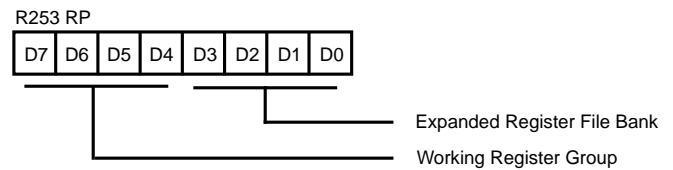
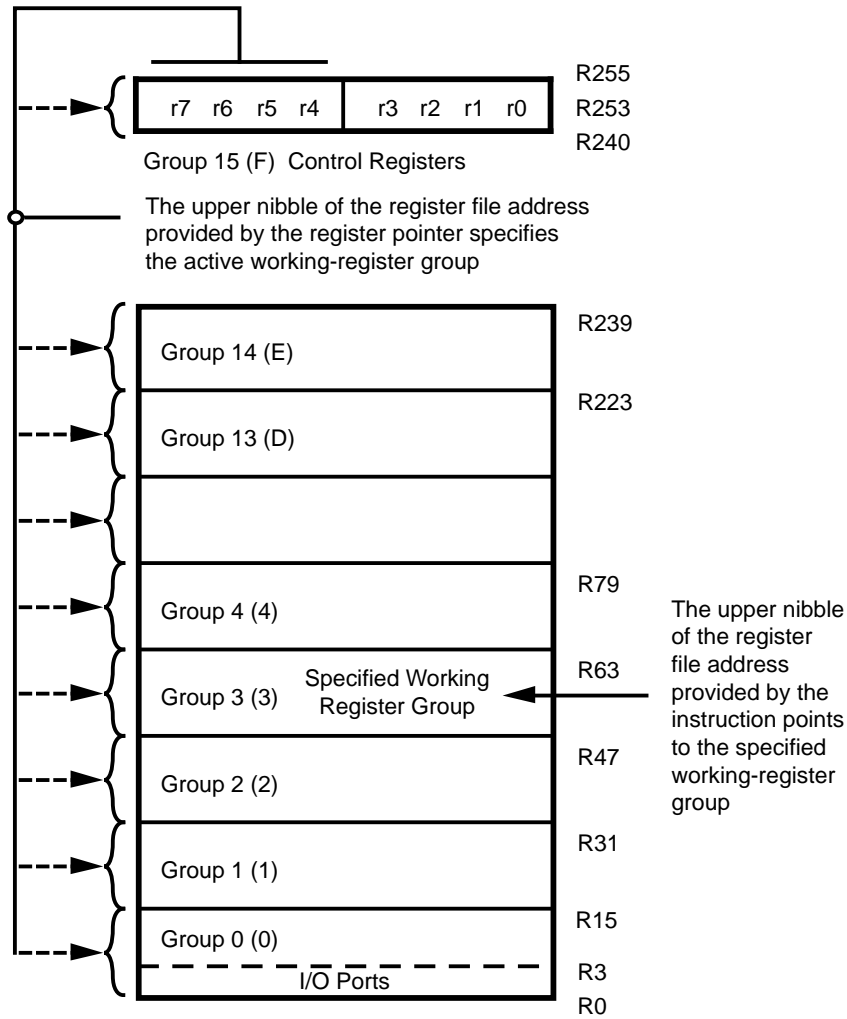
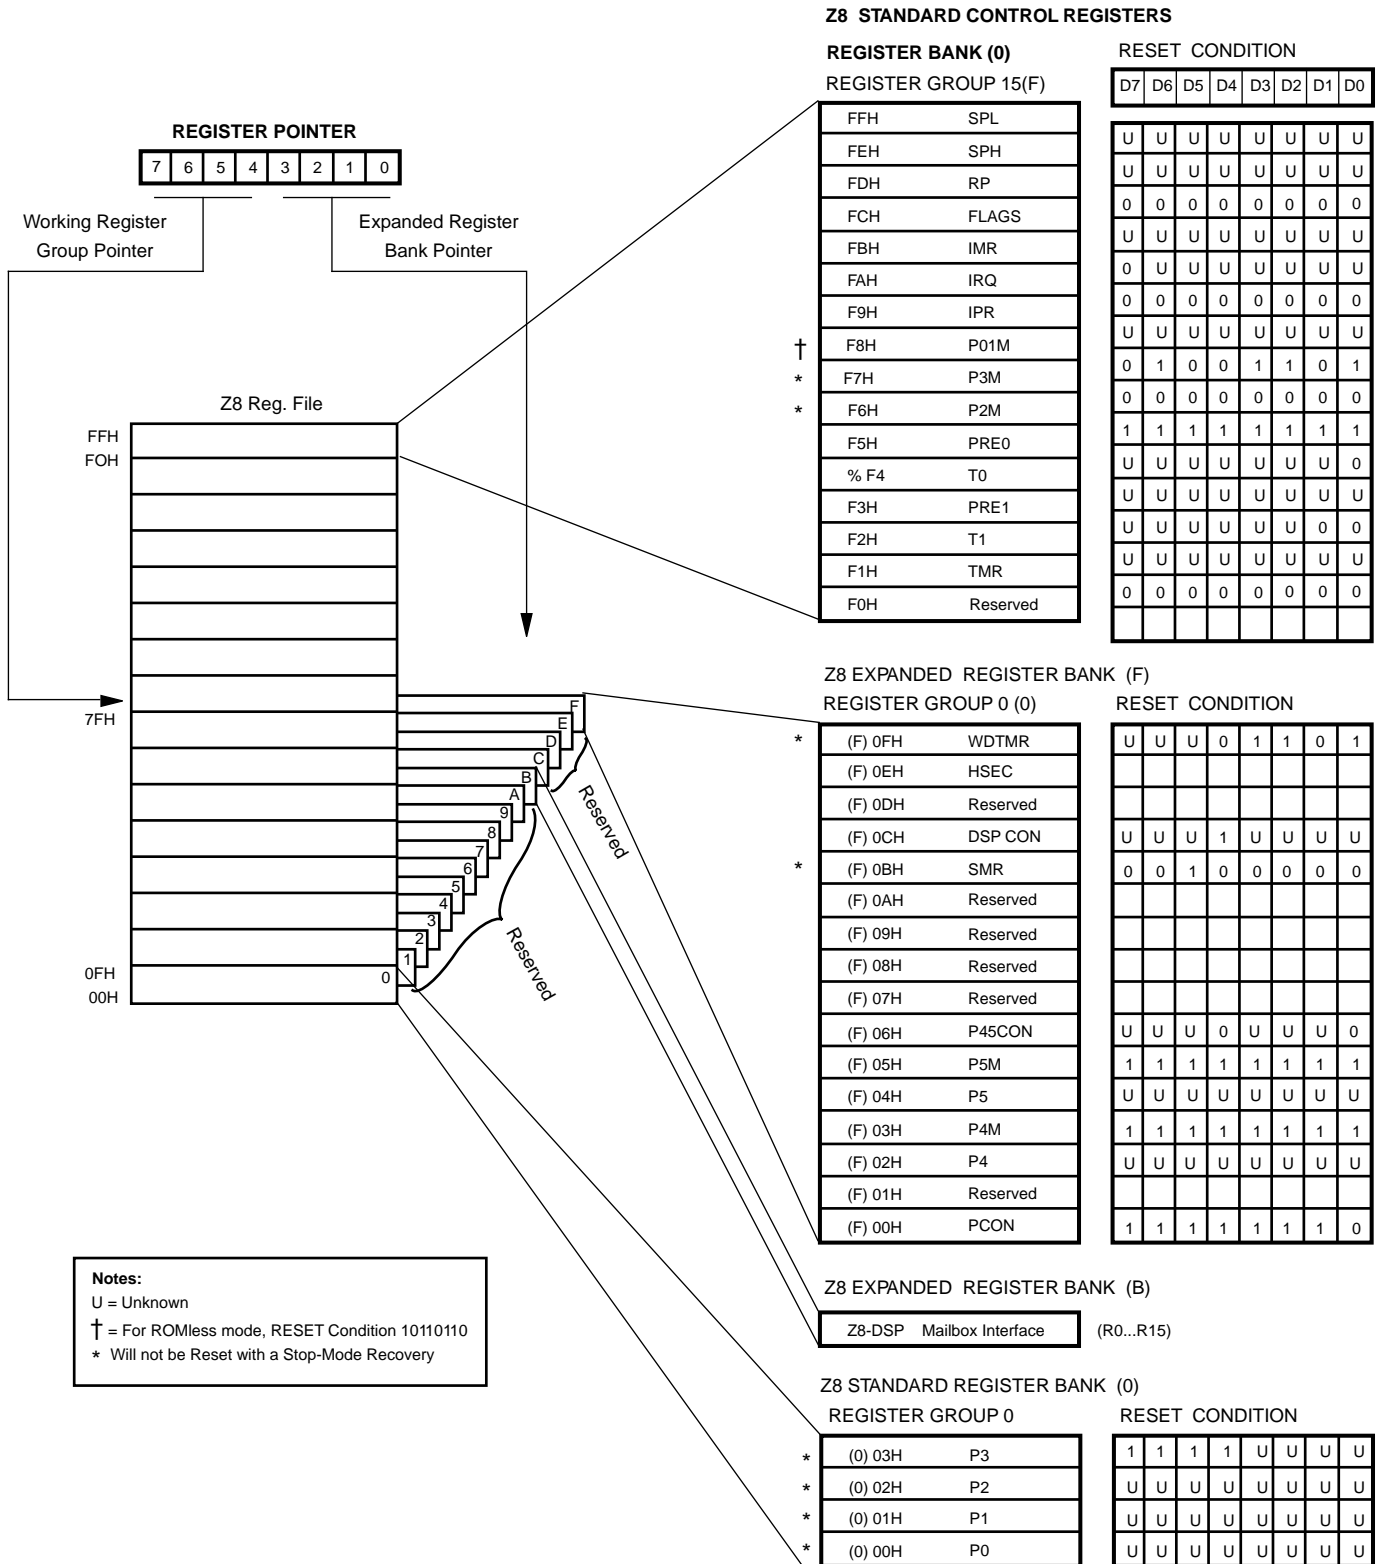

Figure 19. Register Pointer Register
Figure 20. Register Pointer
Figure 21. Expanded Register File Architecture
**Register File.** The standard Z8® register file consists of four I/O port registers, 236 general-purpose registers, and 15 control and status registers (R0-R3, R4-R239, and R241-R255, respectively). The instructions access registers directly or indirectly through an 8-bit address field. This allows a short, 4-bit register address using the Register Pointer (Figure 19). In the 4-bit mode, the register file is divided into 16 working register groups, each occupying 16 continuous locations. The Register Pointer addresses the starting location of the active working register group (Figure 20).
**RAM Protect.** The upper portion of the Z8's RAM address spaces 80H to EFH (excluding the control registers) is protected from reading and writing. The RAM Protect bit option is mask-programmable and is selected by the customer when the ROM code is submitted. After the mask option is selected, the user activates the RAM Protect from the internal ROM code by loading a bit D6 in the IMR register to either a 0 (OFF) or a 1 (ON). A 1 in D6 indicates RAM Protect enabled.
**Expanded Register File.** The register file on the Z8 has been expanded to allow for additional system control registers and for mapping of additional peripheral devices along with I/O ports into the register address area. The Z8 register address space has been implemented as 16 banks of 16 register groups per bank (Figure 20). These register banks are known as the ERF (Expanded Register File). Bits 7-4 of register RP (Register Pointer) select the working register group. Bits 3-0 of register RP select the Expanded Register bank (Figure 21).